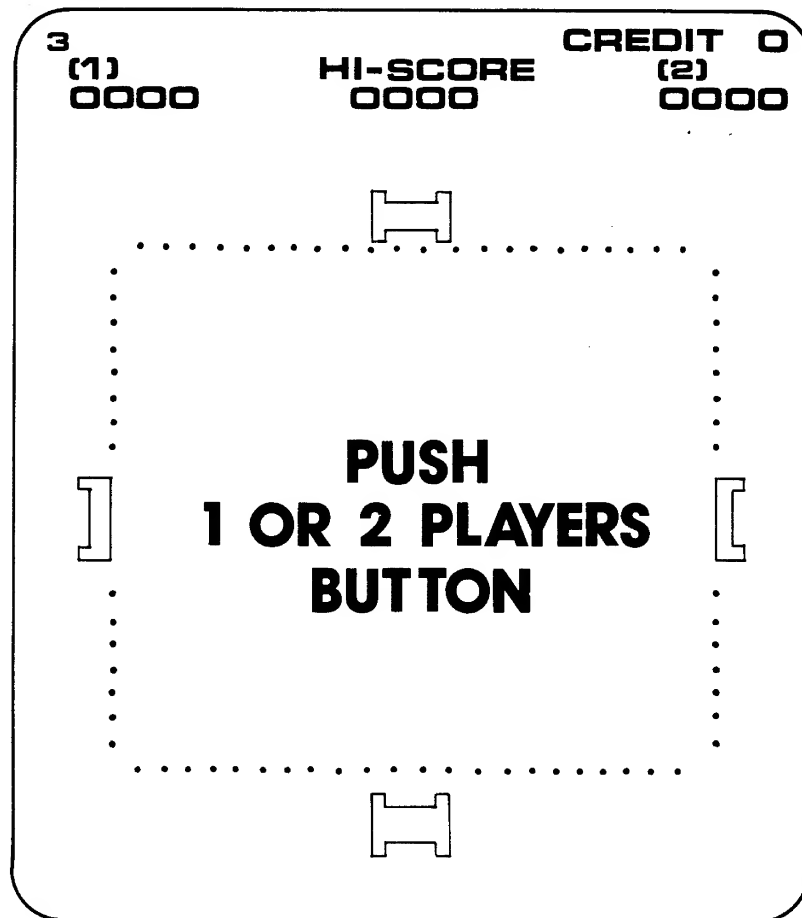

FIGURE 5, Video Screen In The Ready-To-Play Mode
In the far upper left hand corner a number appears indicating how many times the Hero may be shot before the game ends. (This is an option - refer to the Operator Option section for information.) Next to this number is a (1) indicating the four-digit Player 1 score. In the upper middle of the screen the word HI-SCORE is displayed with a four digit number underneath. The highscore will be displayed continually during the day, and is reset to zero each time the game is deactivated. At the top upper right the word CREDIT 0 appears. The zero will change to keep track of the number of credits for which a player has paid, returning to zero when the credits are used up. Directly below the Credit number, the Player 2 score appears. At the center bottom of the screen a zero is displayed in a box, indicating how many times the hero (player) has eliminated all the bandits from the screen during play. (Figure 5 illustrates the Ready-to-Play Mode Screen as it should appear when operating correctly.)